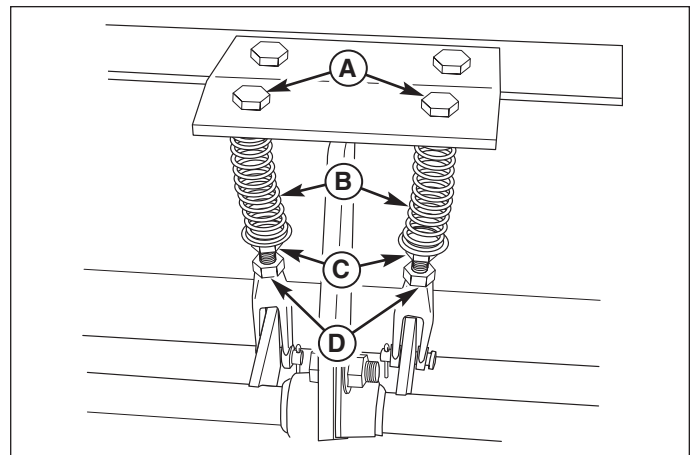

Figure 33. Neutral Spring Return Adjustment
3. Move the ground speed control levers towards the neutral position. If the levers do not align with the notches in the neutral lock plate, it is necessary to adjust the reverse return bolts (A, Figure 33).
1. Loosen the jam nut (D, Figure 33) locked against the clevis.
2. Turn the reverse return bolt (A) clockwise to adjust handle rearward, counter-clockwise to adjust handle forward.
After adjusting the neutral position, lock the levers in the neutral position and measure the reverse return spring (B, Figure 33) length. This should be 2-3/8” long. If not, hold the reverse return bolt (A) with a wrench while turning the spring position nut (C) until the measurement is achieved.